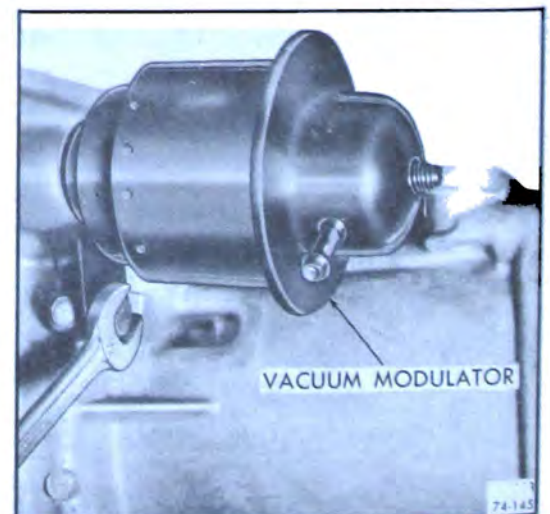

Figure 74-145
1. Remove vacuum modulator retainer bolt and retainer. See Figure 74-145. Remove vacuum modulator and valve assembly.